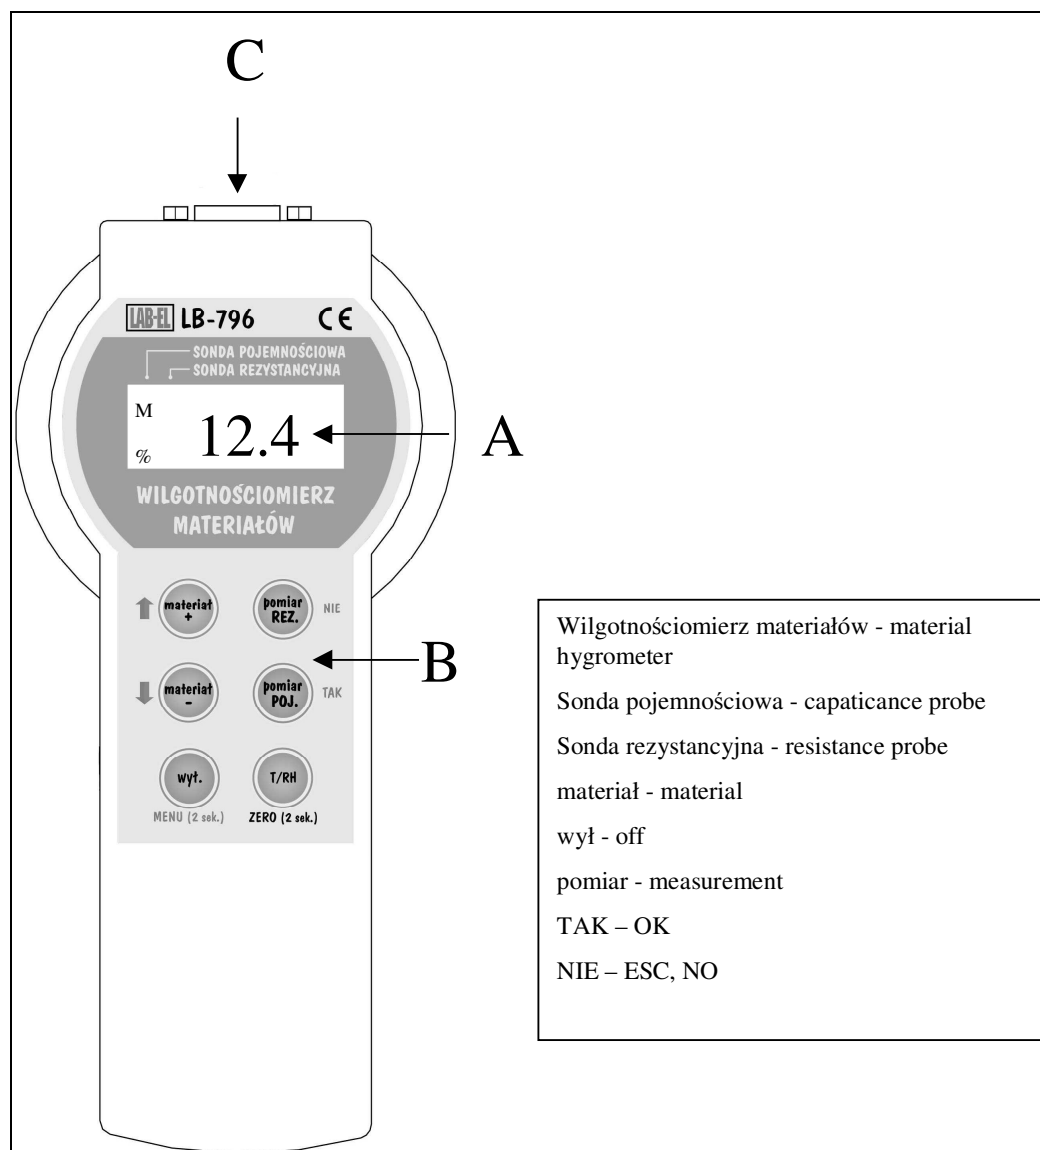

Figure 1 Panel LB-796P – view from the keyboard
Location of elements on the LB- 796P panel, which are accessible for the user, is presented one the Figure 1.
- connect hygrometer LB-798 and LB- reading panel 796 (to the socket labeled C in Figure 1), attached to the socket with the screws included in the plug probe,
Before switching on, the device must be connected to reading panel LB- 796 and LB -798 probe (socket labeled as C in Figure 1).
- connect hygrometer LB -798 and LB- reading panel 796 (to the socket labeled C in Figure 1), attached to the socket with the screws included in the plug probe,
- connect hygrometer LB -798 and reading panel LB- 796 (to the socket labeled C in Figure 1), attached to the socket with the screws included in the plug probe,